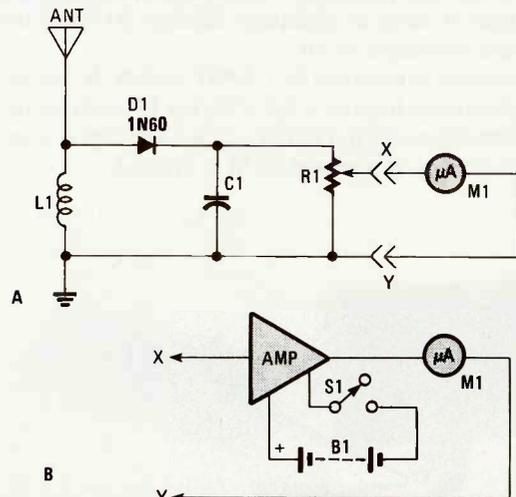

Fig. 2—An untunable field-strength meter is shown in 2A. An amplified version of the meter module is shown in 2B.
Fig. 2—Copy this same-size template to make your printed-circuit board of the VOX Box. Should you decide to use a perfboard, insert flea clips where component leads would enter the PC board. Then hard wire everything.
The best assembly method for the VOX Box is to use the pre-etched, printed-circuit board (see Parts List) and kit of parts that are available. Assembly time will be only one evening—this writer took three hours, which included picture taking and circuit measurements. Another way to go is to make your own circuit board and buy only those parts that are missing from your junkbox inventory. If that is the case, make your printed-circuit board from the same-size circuit pattern shown in Fig. 2.
Since it's easy to make a mistake because all the sockets and switches look alike, a convenient numbered wiring order is shown in Fig. 2. To keep Fig. 2 from looking like a rat's nest, switch S1 is broken up into its three individual sections, labeled Sa, Sb, and Sc, and the wiring for only one side of the switch assembly is shown. Simply wire both sides the same way.
**Fig. 2—**The assembly will be easy to do if you follow the wiring order shown, starting with the wire numbered 1. Use the same wiring order for the remaining switch terminals.